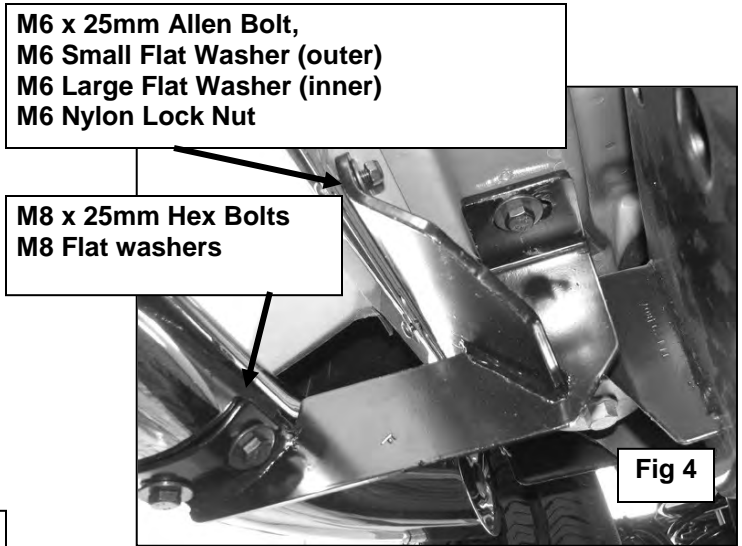

Fig 4
2. Start installation toward the front of the driver side of the vehicle. Determine if the vehicle is has an open floor panel or a threaded hole in the floor panel for the top tab on the Bracket, (Figures 1 & 3). Vehicles open mounting location: Insert (1) M10 Nut Plate into the large square opening in the floor panel. Line up the threaded nut with the small hole in line with the tab on the Bracket, (Figures 2A & 2B). Bolt the Bracket to the Nut Plate with (1) M10 x 35mm Hex Bolt, (1) M10 Lock Washer and (1) M10 Flat Washer. Do not tighten hardware, (Figure 4). Vehicles with factory threaded hole in floor panel: Bolt the tab on the Bracket to the threaded hole in the floor panel with (1) M8 x 35mm Hex Bolt, (1) M8 Lock Washer and (1) M8 Large Flat Washer, (Figures 3 & 4). Do not tighten hardware.
3. Line up the mounting plate on the Bracket with the (2) factory holes in the pinch weld. Bolt the Mounting Bracket to the back of the pinch weld using the included (2) M6 x 25mm Button Head Allen Bolts, (2) M6 Flat Washers, (against pinch weld), (2) M6 Large Flat Washers, (inside against the bracket) and (2) M6 nylok Nuts, (Figure 4). Leave loose at this time.
5. Carefully unwrap and position the driver Sidebar onto the Brackets. Attach the Sidebar to the Mounting Brackets using the included (4) M8 x 25mm Hex Bolts, (4) M8 Lock Washers and (4) M8 Flat Washers (Figure 4). Do not tighten at this time. NOTE: The Sidebar has (2) sets of inserts to bolt the Sidebar to the rear Bracket. 2007: Use the rear set of inserts closest to the rear tire, (Figure 7). 2008 - 12: Use the forward set of inserts, (Figure 8).